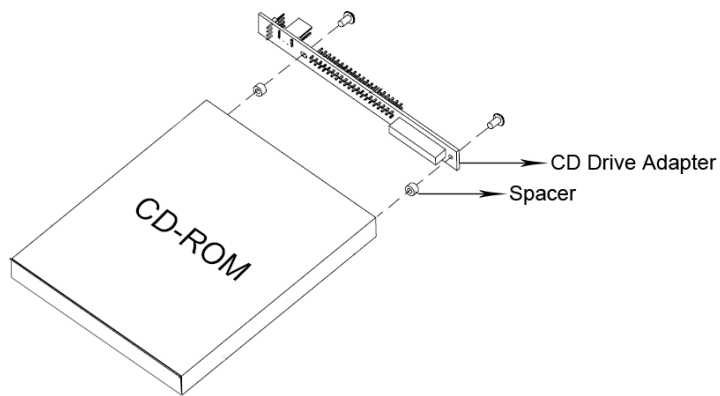

Figure 3-5: CD Drive Adapter Installation
- Step 3:** Insert two retention screws and secure the adapter to the CD drive (**Figure 3-5**)